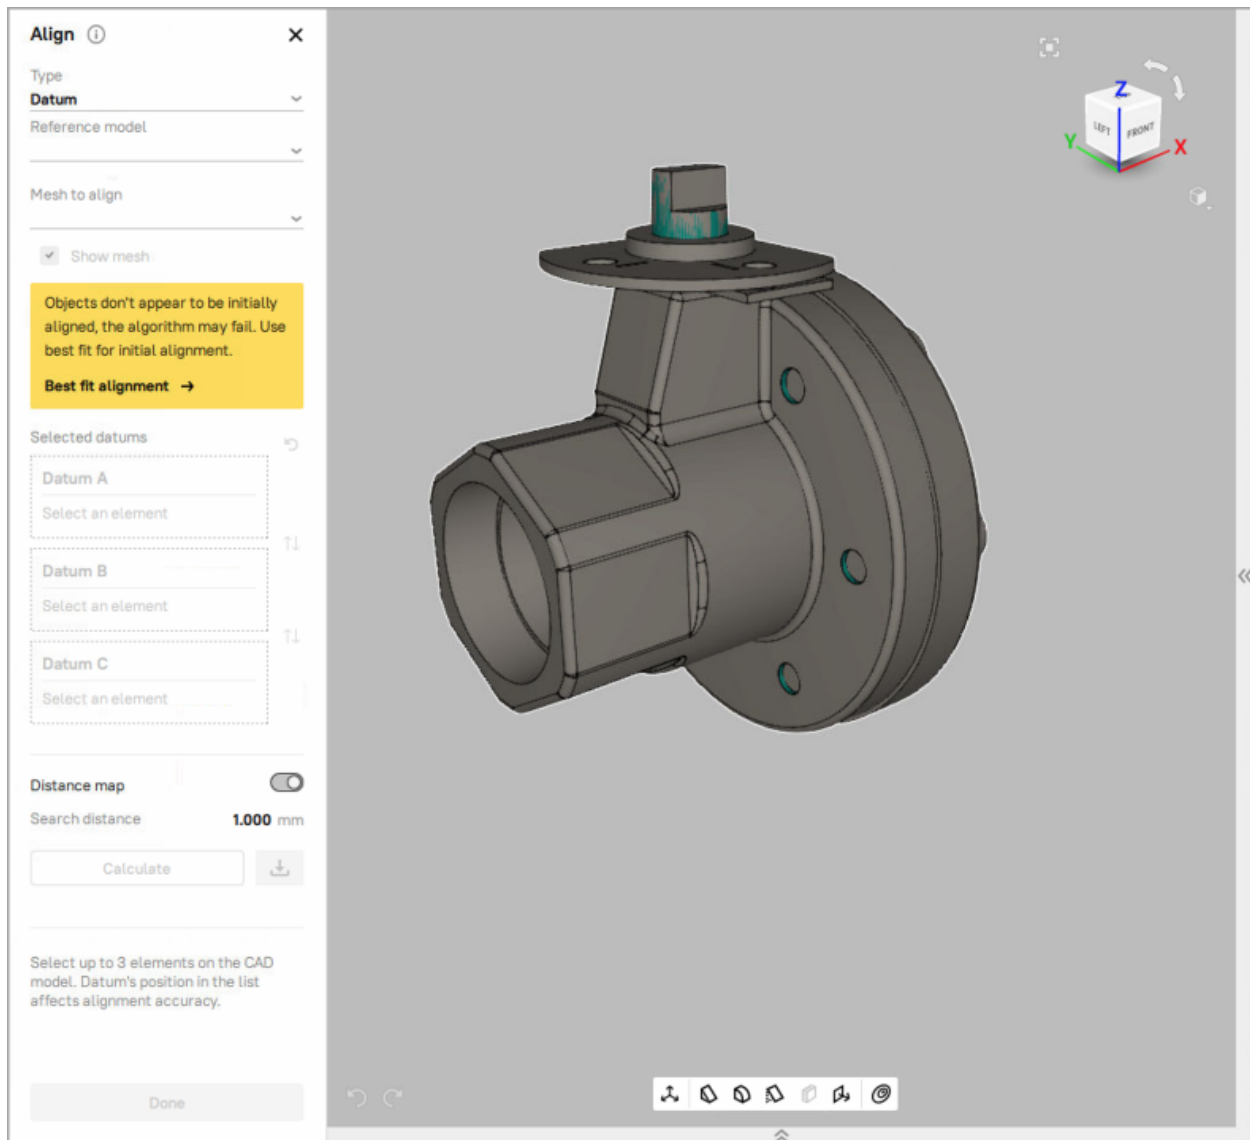

Figure 133: The disabled Datum Alignment for non-aligned objects
**Note:** Datum alignment is a fine alignment type, so it requires a pre-alignment to be performed first. If selected objects haven't been aligned beforehand, a yellow warning will appear on the Datum Alignment tab along with a button that opens the *Best fit* alignment tab (see Figure 133).